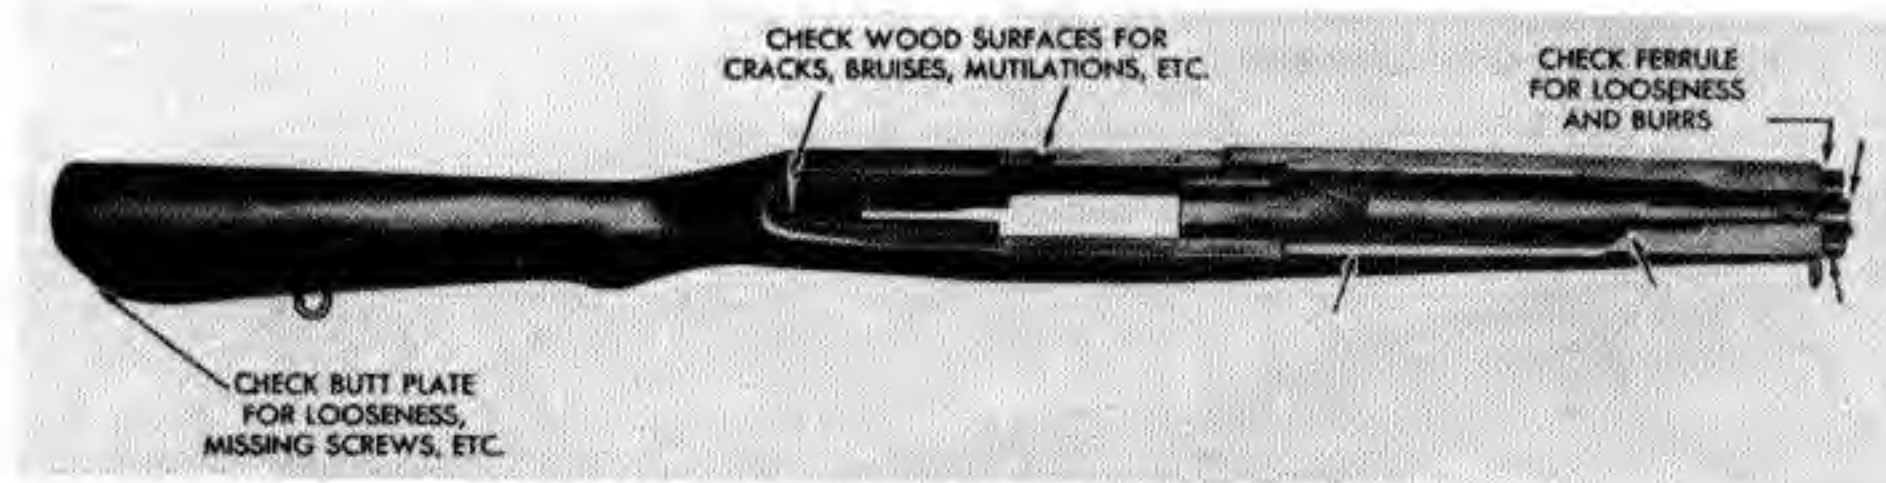

Fig. 154. Stock group, points to inspect (top view).
80. Stock: inspect relief cuts for signs of binding with adjacent assemblies and parts. Important points to be inspected are shown in Figs. 154 and 155.
(Figs. 154, 155), check to see that there is no binding or interference with operating parts. Stocks, although made of walnut and treated with linseed oil, sometimes swell, due to moisture, thus causing binding of the working parts. In such cases relieve the binding by using a flat file. Always file towards the sharp edges.